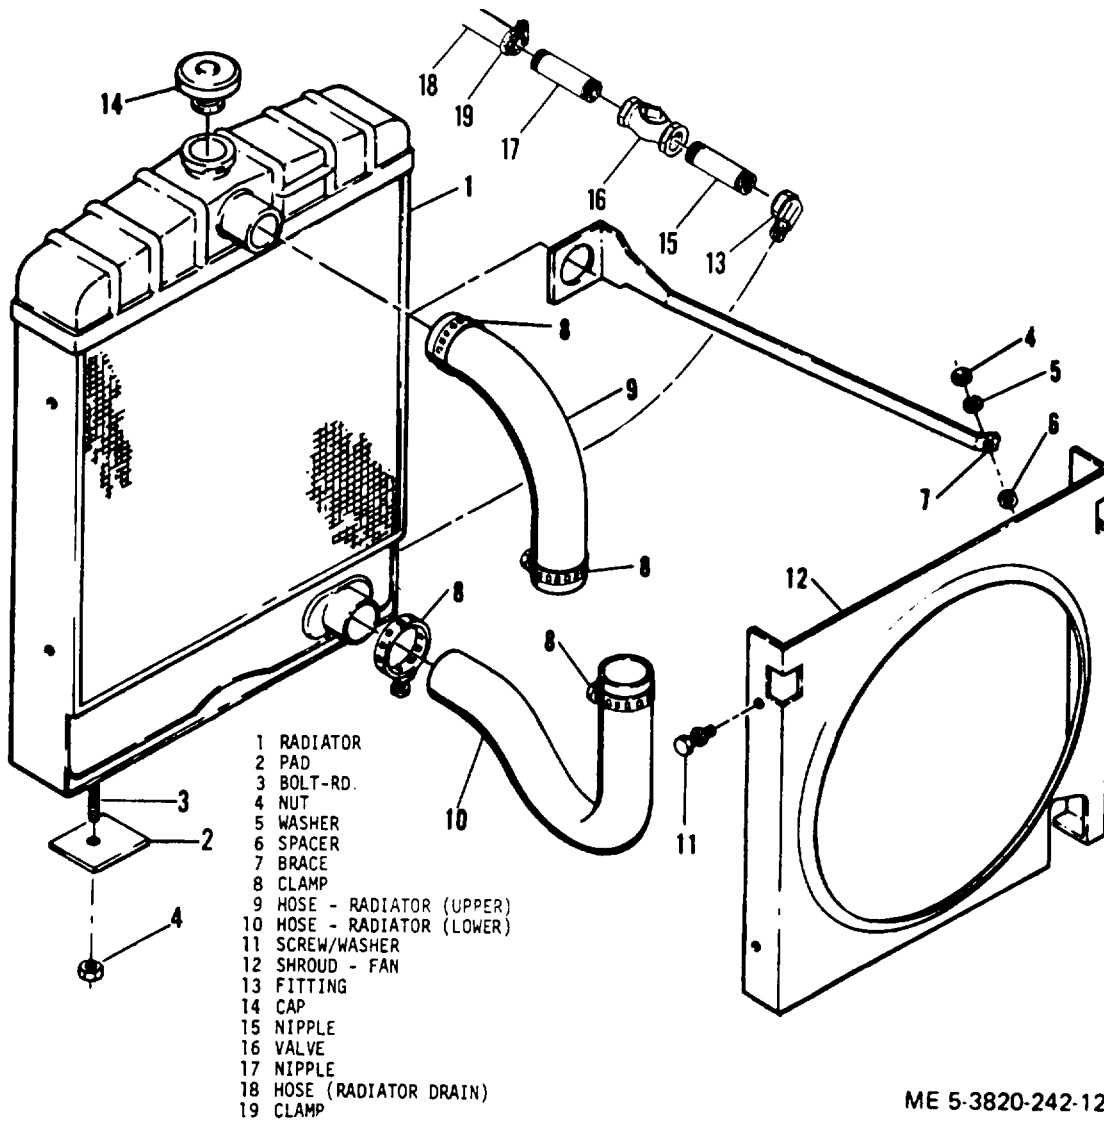

Figure 4-2. Radiator, exploded view.
b. Remove radiator cap (14,fig. 4-2) by turning it in a counterclockwise direction and lifting straight upward. If engine is hot, turn the cap slowly to first stop and allow pressure to escape completely. Then turn cap again slowly counterclockwise to remove.
c. Drain the radiator by opening the drain cock (16)on the lower part of the radiator. After draining, remove the clamp(19),drain hose E8) and drain cock (16).
d. Loosen the clamps (8) on the upper hose (9) and lower hose(10)and disconnect hoses from radiator.
e. Remove the nut (4) and washer (5) from Engine
a. Remove radiator cap(14,fig. 4-2) by slowly turning the cap in a counterclockwise direction to the first stop.